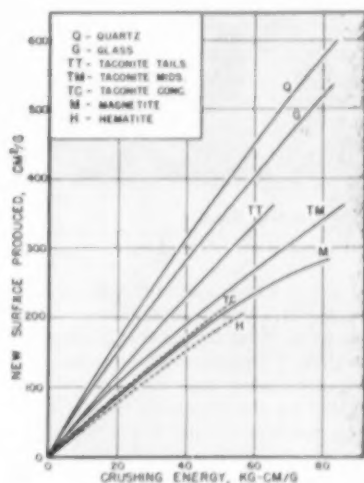

Fig. 4. Energy-new surface relationships at 25°C. Areas by air permeability, energy by efficiency method.
The original data obtained are presented in Table 5, of which those obtained at 25°C. are plotted in Figure 4 to show the relation between new surface produced and the energy consumed for the materials tested. Previous publications (1, 9, 11) have presented similar relationships for a variety of materials, initial sizes, and energy inputs. The effect of energy concentrations has been discussed (2), showing that this is an important factor. Further work on this aspect is in progress.